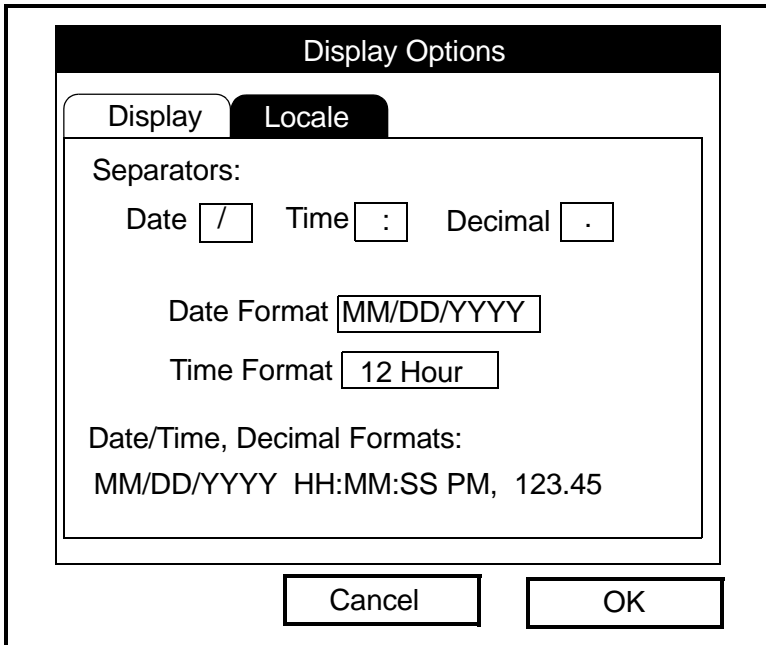

Figure 7-4: Format Tab in the Display Options Window
1. From the Meter menu, scroll to the Locale entry and press [ENTER]. The Display Options window opens on the Format tab, as shown in Figure 7-4 below. To step through each parameter, press the [▼] key.